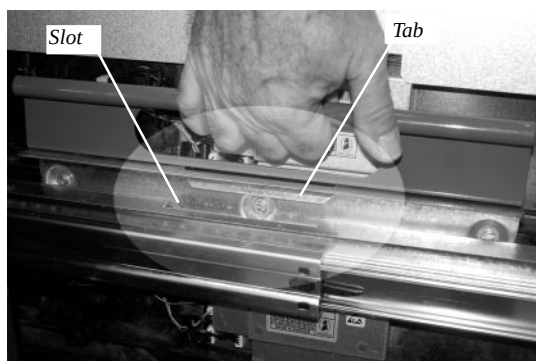

Figure 3-40. Tab and slot aligned for dispenser installation on rails.
2. See Figure 3-40. Pick up the dispensing mechanism by the handles and load